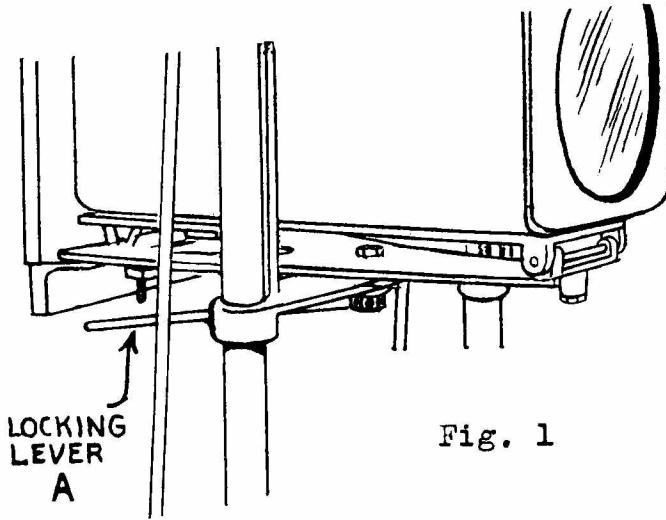
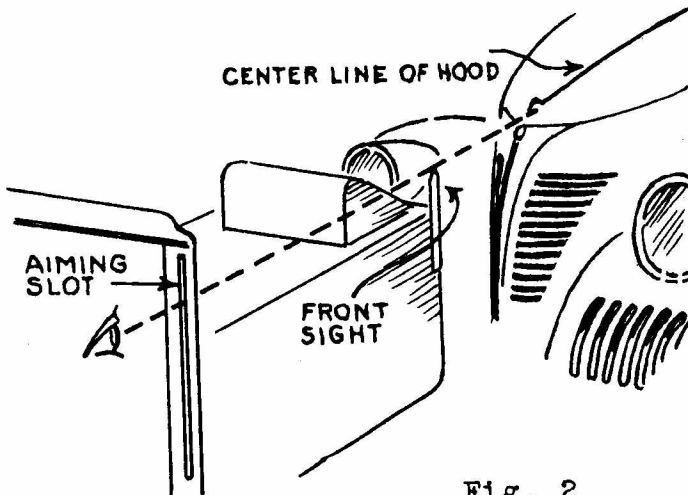

Fig. 1
Fig. 2
3. Move the Rayoscope along the track until it is directly in front of the center of the car. Release the lock lever, A, Fig. 1. Now sight through the vertical aiming slot on the right side of the back panel as you face the car, Fig. 2. Stand at the rear of the Rayoscope and sight through the slot across the vertical stem sight on the right front of the box end and along the center line of the car's hood. This lines up the sights with the hood. Next lock the tester in this position by moving the lock lever, A, Fig. 1, to the right.